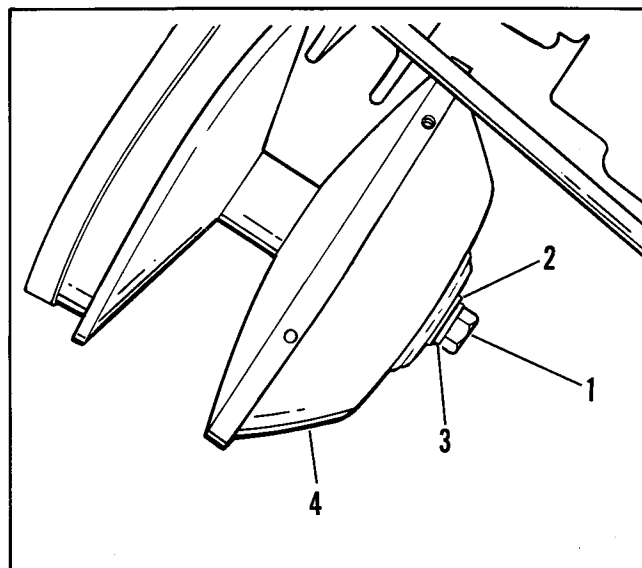

Figure 77 – Removing Movable Flange Cover
- f. See Figure 77. Remove the bolt (1), washer (2) and lockwasher (3) from the floating flange (4).